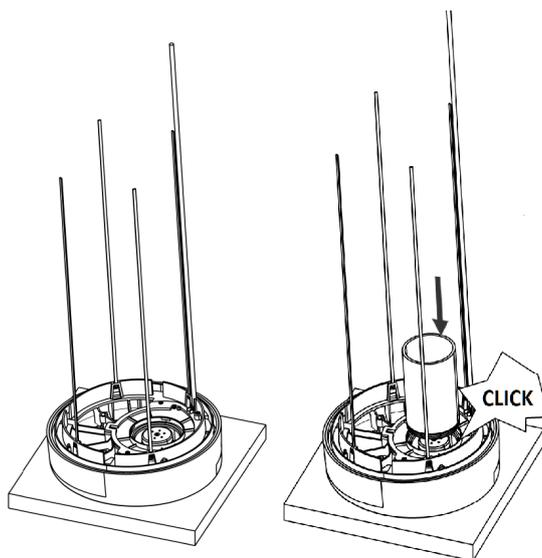

Figure 10 - Preparation of outside hood with  $\text{\O}90$  mm tube
1. The outward-facing side of the outside hood (1) is placed on a piece of cardboard from the packaging on top of a steady surface. The outside hood comes with pre-mounted strips.
2. Press the  $\text{\O}90$  tube (3) with the milled grooves against the inside of the hood so it clicks on. See Figure 10 below. Afterward, put the isolation down around the tube. It is important to push it all the way down toward the hood.